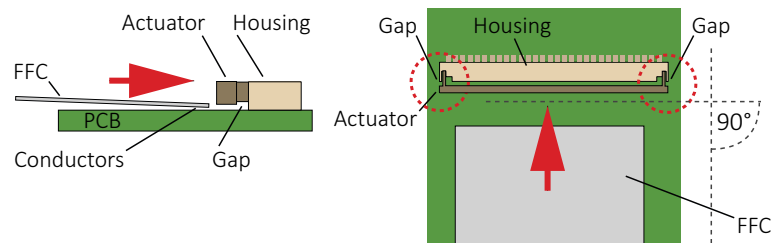

Figure 12: Opening the 22-pin FFC connector on SoMs
- Take the FFC with conductors facing the PCB and feed it underneath the actuator into the connector at a horizontal angle of 90° to the actuator's front... (see Figure 12)